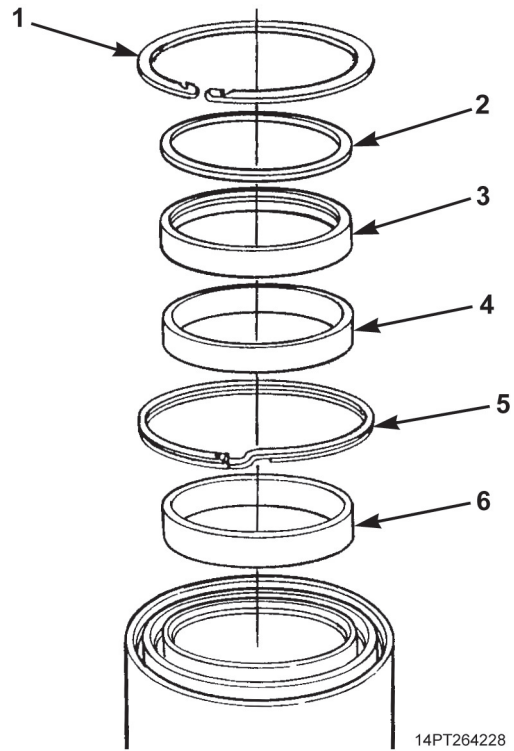

Figure 26. Ring, Seal, and Wiper Installation.
10. Install new bottom guide ring (Figure 26, Item 6) and new spiral retaining ring (Figure 26, Item 5).
11. Install new seal (Figure 26, Item 4).
12. Install new wiper (Figure 26, Item 2) in new wiper retainer (Figure 26, Item 3) and install wiper retainer.
13. Install retaining ring (Figure 26, Item 1).